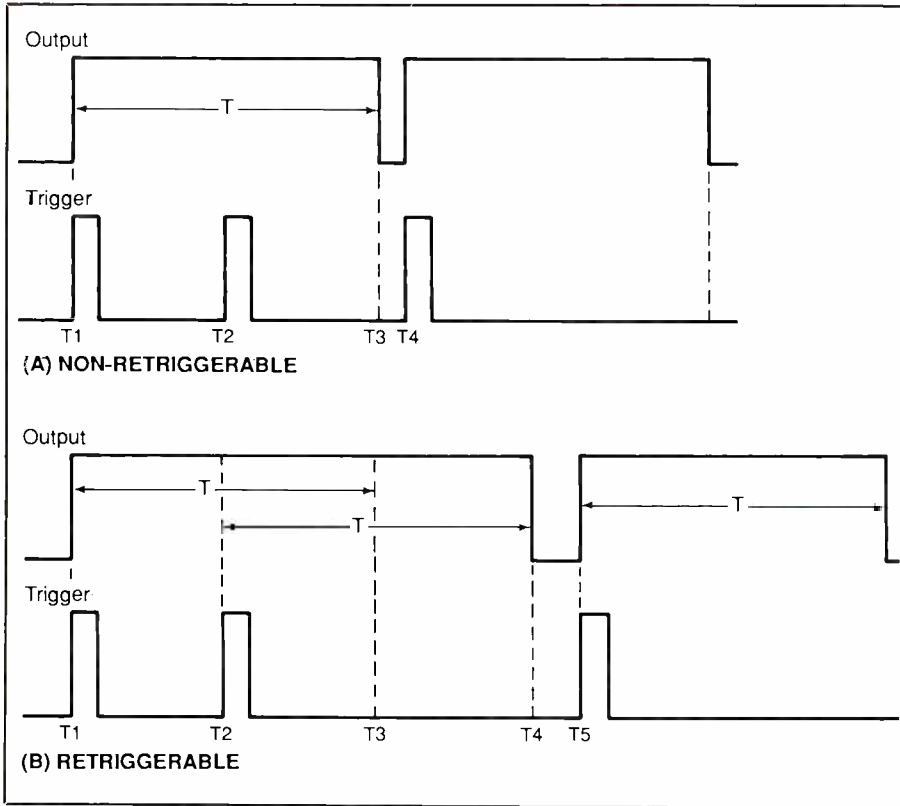

Fig. 2. Responses of non-retriggerable (A) and retriggerable (B) multivibrators.
Shown in Fig. 2(A) is the non-retriggerable response. At time  $T_1$ , a trigger pulse is received and the output snaps to a logic high for time T. At time  $T_2$ , however, a second trigger pulse is received. The circuit ignores this second trigger pulse because it is already active. At time  $T_3$ , the original pulse "times out," which readies the circuit to receive and act upon another trigger pulse. The sub-
Shown in Fig. 2(B) is the retriggerable monostable multivibrator response. The original trigger pulse occurs at time  $T_1$ , at which point the output snaps to logic high for the duration of time T. At time  $T_2$ , when a second pulse is received, the circuit "retriggers" for an additional time T. The total duration of the high output state, then, is  $T_4 - T_1$ , or natural duration time T plus a shorter duration  $T_2 - T_1$ .